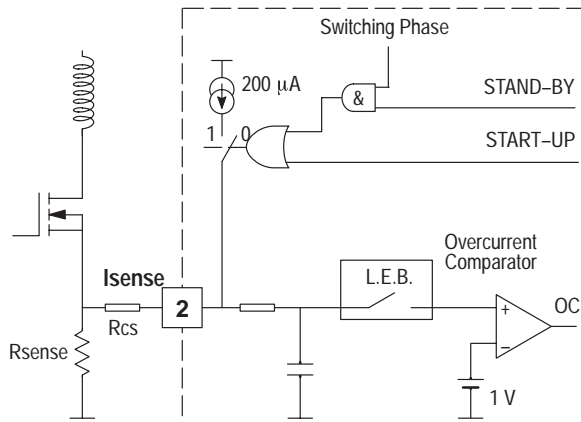

Figure 2. Current Sense
**The NEXT SWITCHING PHASE:** The high voltage current source is inhibited, the MODE latch ( $Q=0$ ) activates the NORMAL mode of operation. Figure 2 shows that no current is injected out pin 2. The over current sense level corresponds to 1V.